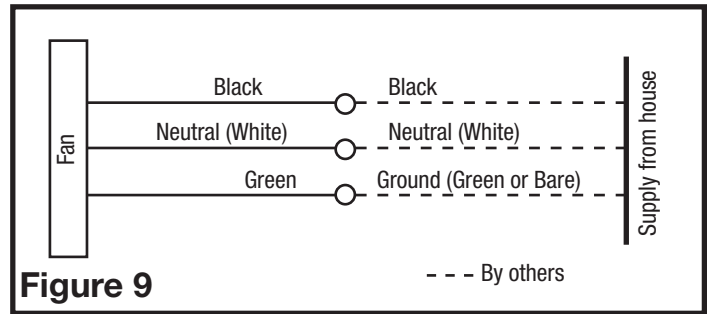

**Figure 8**
2. **Continuous Ventilation:** For two speed fans wired for continuous ventilation, connect the White wire of the fan to the White (Neutral) wire from the power source. Connect the ground wire from the house to the green wire from the fan housing. Run 2 wires from a properly grounded wall switch (not included) to the fan. Connect the Black wire of the fan to the Black wire (Hot) from the power source. Connect the Hot Yellow wire from the fan to the input of the switch. Connect the second Yellow wire from the fan to the output side of the switch. Closing the switch will change from normal to high speed (Figure 8).